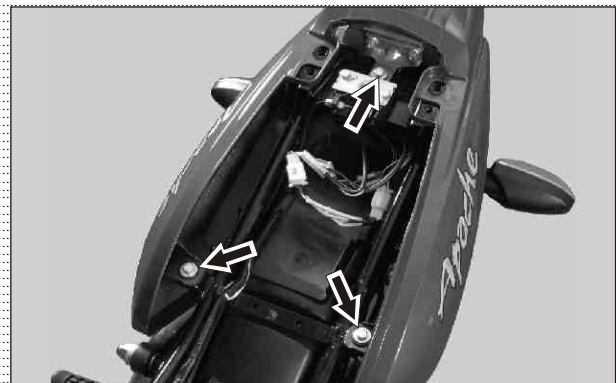

Fig. 5.54
- Remove hexagonal screws (M6x25 - 3 nos) along with the plain washer. (Fig. 5.54)